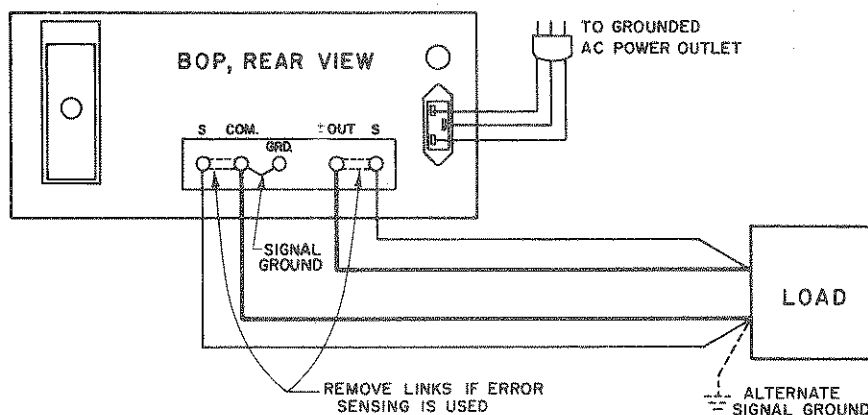

FIG. 3-3 LOAD CONNECTION WITH ERROR SENSING AND GROUNDING CONNECTIONS BETWEEN THE BOP AND THE LOAD.
- C) **LOAD CONNECTION (11).** The recommended load connection for all applications requiring minimum load effect across a remote load is shown in FIG. 3-3. A twisted, shielded pair of wires (No. 20 AWG minimum) are connected from the BOP sensing terminals to the load. This "remote error sensing" technique will compensate for load wire voltage drops up to 0.5 volts per wire.